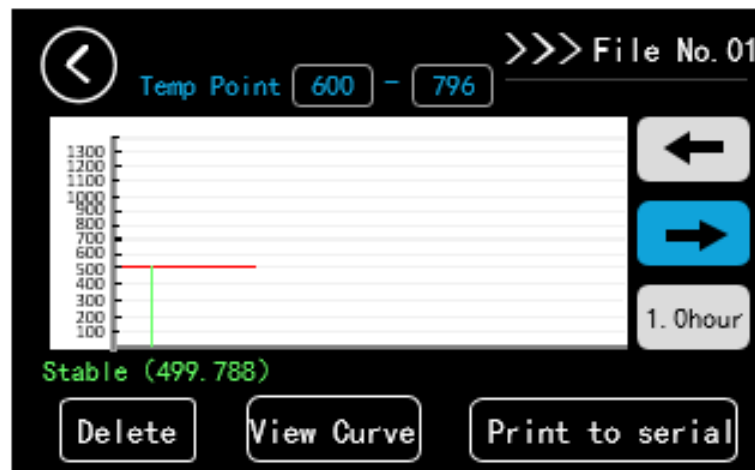

Fig 4.15 Viewing Curve Graph
- 2) **Graph viewing:** File for empty point press no response; The date of temperature control in the files is displayed as curve graph, that is, historical curves, as shown in Figure 4.15. Empty files will give no response when clicking.
When temperature control reaches stability, the current measured temperature will be displayed in green as shown in Fig 4.15